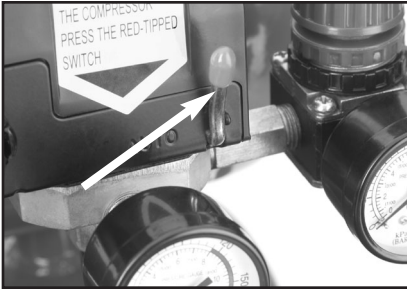

Figure 4. ON/OFF lever.
1. Make sure the compressor switch is in the **OFF** position (lever with red cap above pressure gauges shown in **Figure 4**) before connecting to the power supply.